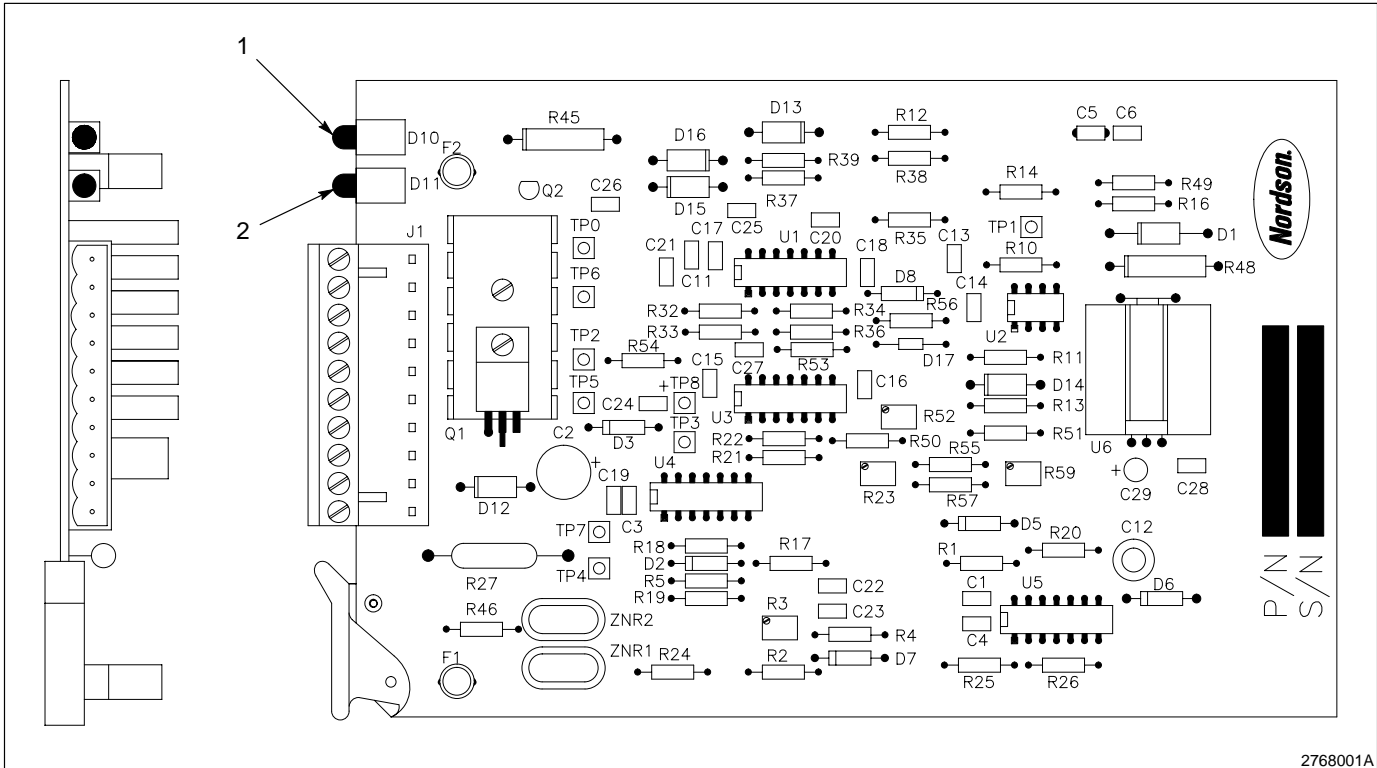

Fig. 1 KV Board Layout
See Figure 1. Table 1 provides a description of the pin-outs for connector J1 on the kV board.
7. See Figure 1. Verify that the green LED (1) is on and the amber LED is off.
8. Trigger an application that corresponds to the kV board and verify that the amber LED (2) is on.
1. See Figure 1. Check if the green LED (1) is lit.
3. Trigger the system and check that the amber LED (2) is lit. Check that kV is present at applicator.